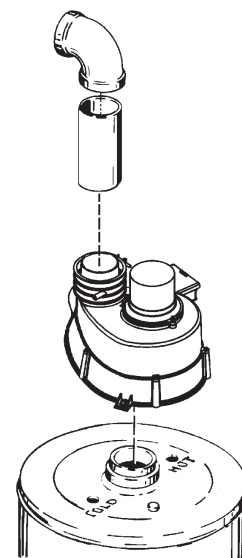

FIGURE 16. BLOWER ASSEMBLY
1. Layout the total vent system to use a minimum of vent pipe and elbows. Take into consideration that an elbow will be necessary to make the first vent pipe connection to the power venter outlet, see Figure 16.
2. This water heater is capable of venting the flue gases the equivalent of thirty (30) feet of 3 inch pipe or one-hundred (100) feet of 4 inch pipe as listed in Table 1.
3. The blower discharge adapter is made to accept only straight sections of 3" pipe. To start a minimum of 2 inches of 3" pipe must be attached to the blower discharge. See Figure 16.
5. The blower discharge boot is made to accept only straight sections of 3" pipe. To start off with an elbow, a short section of the furnished pipe, a minimum of 2 inches, must be cut and glued into the end of the elbow that will mount on the discharge boot (see figure 16).